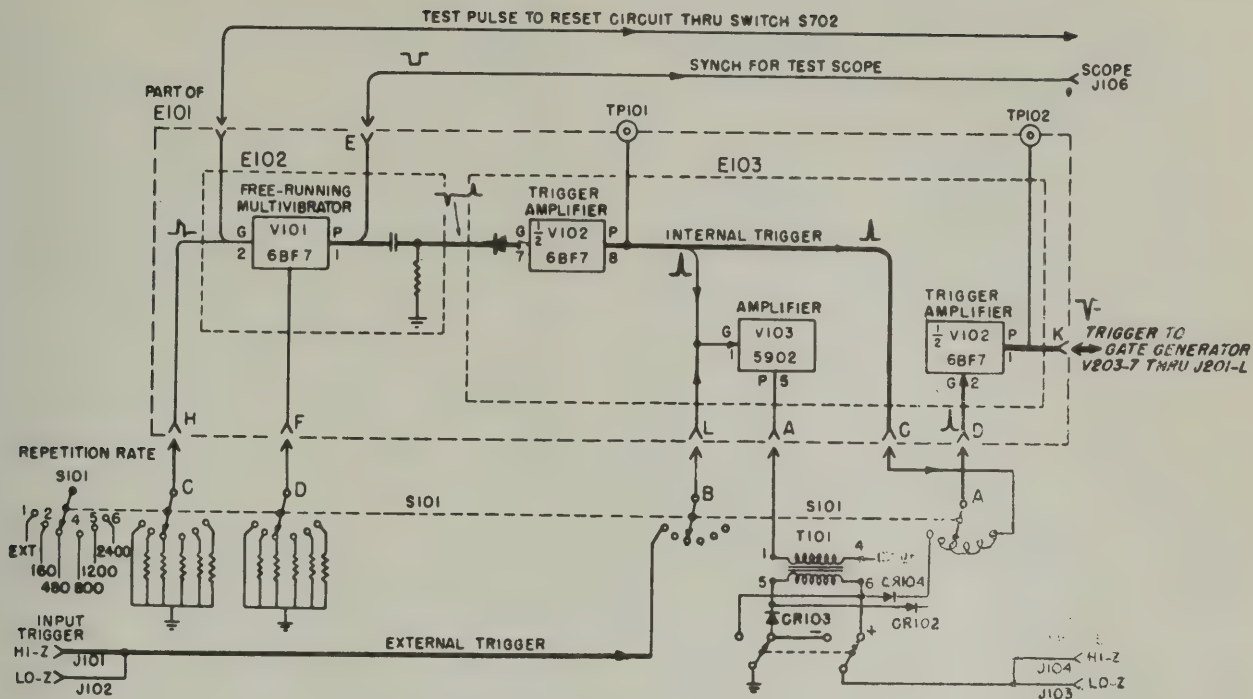
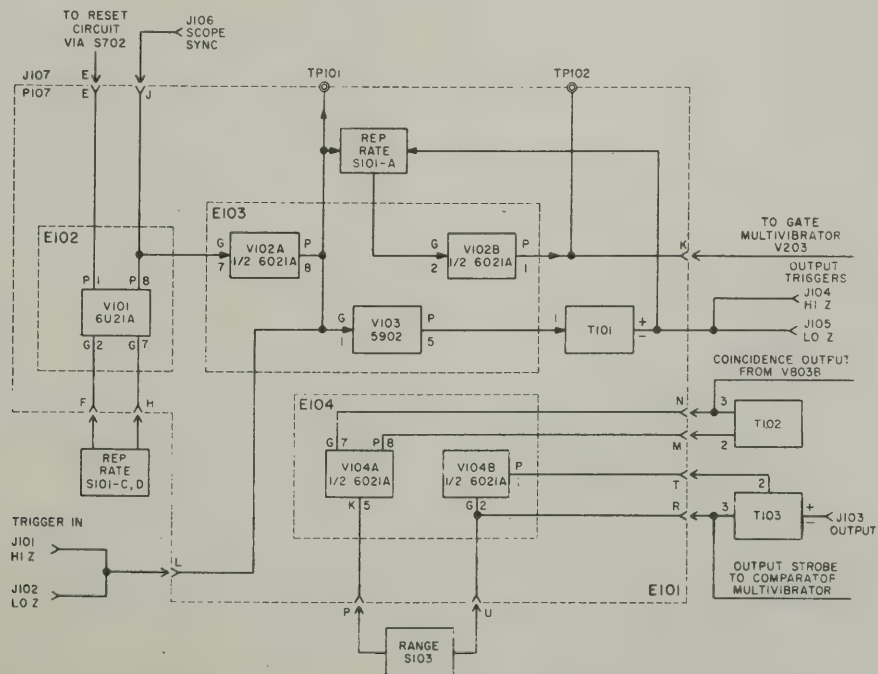

Figure 2-7. Triggering Circuits, TS-573/UP
Figure 2-7A. Triggering Circuits, TS-573A/UP
a. TRIGGERING CIRCUITS.—Female board E101 includes three male boards, E102 through E104. Refer to figures 2-7 and 5-38, to follow the circuit description. For TS-573A/UP see figures 2-7A and 5-38A.
The twin triode stage V101 on male board E102 is a free-running multivibrator oscillating at any one of five repetition rates, as selected by the REP RATE switch S101. These five rates are 2400, 1200, 800, 480, and 160 pulses per second, and are effected by switching the proper value of resistance into the grid circuits of the multivibrator through sections D and C of S101. In the EXT position of selector S101, both grids of V101 are grounded and the multivibrator rendered inoperative. The preceding statement also applies to TS-573B/UP units bearing serial numbers 1 through 69. For units 70 and up the wiring of S101 has been changed so that in the EXT position, the grid of V101A is connected to R101 instead of to ground. This eliminates the possibility of parasitic oscillations when S101 is in the EXT position. If parasitic oscillations occur (in units 1 through 69) the wiring of S101 should be changed to agree with figure 5-36B. The two triode sections of V101 have the same circuit parameters, so that the resultant output is a square wave. This square wave is taken off the plate, pin 8, and through terminal E of P101/J107 connects to the TEST contact of chassis switch S702. Its negative edge triggers the reset multivibrator V703 when S702 is in TEST position. The square wave taken off the plate pin 1 of V101, through capacitor C105 connects to the SCOPE synchronizing jack J106. Through a differentiating network C104-R113 and a germanium diode CR101, the negative edge of the square wave from V101-1 is selected to drive amplifier section 5-7-8 of V102 on male board E103. See figure 2-7.